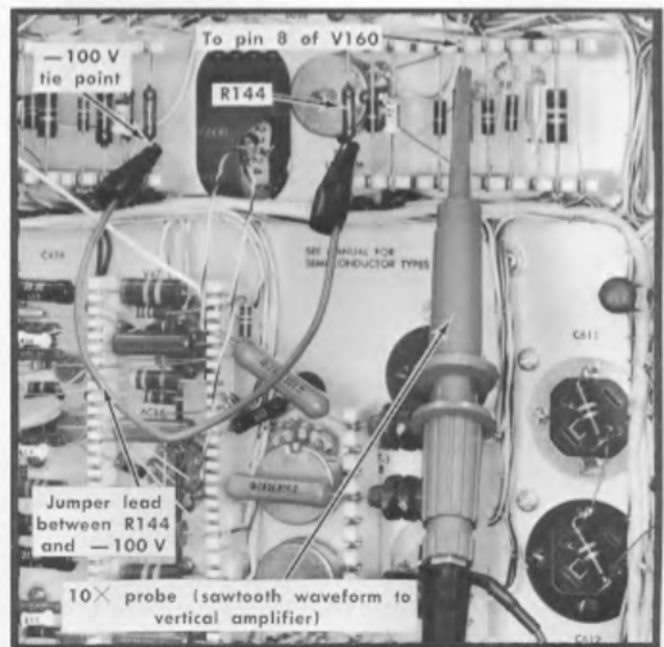

Fig. 6-20. Method of obtaining sawtooth waveform for Horizontal Amplifier attenuator adjustments.
- b. Connect a short jumper lead between R144 and the -100 V supply, as shown in Fig. 6-20.
- c. Connect a 10× probe from the VERTICAL +INPUT connector to pin 8 of V160, as shown in Fig. 6-20.